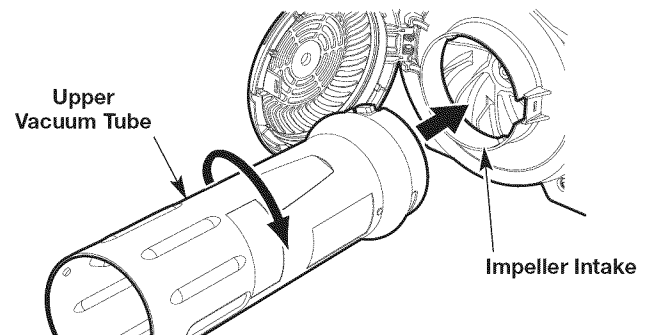

Fig. 7
3. Insert the upper vacuum tube into the impeller intake (Fig. 7).
4. Twist the upper vacuum tube clockwise with both hands until it locks into place (Fig. 7).